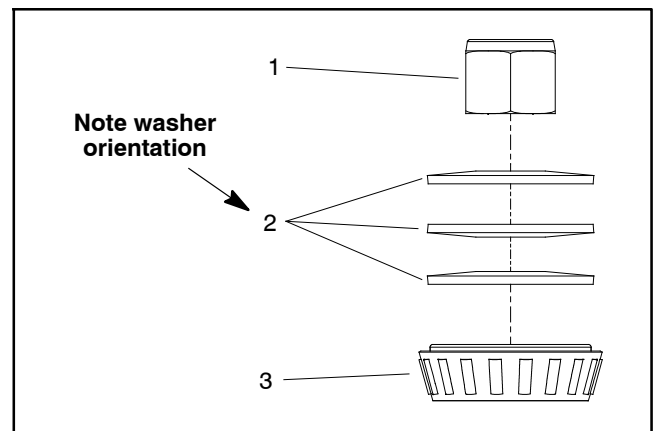

Figure 5
3. Carefully remove grease cap (item 6) from top of frame castor hub. Discard grease cap.
5. Remove three (3) belleville washers and upper bearing cone from frame. Note orientation of washers as they are removed (Fig. 5). Belleville washer orientation is critical for proper castor fork movement.
6. Pry seal (item 10) from frame and discard seal. Remove lower bearing cone from frame.
3. Position greased lower bearing cone into frame and then install new seal (item 10) into bottom of frame hub.
4. Carefully raise castor fork up through frame taking care to not damage seal in bottom of frame hub. Place upper bearing cone and three (3) belleville washers onto castor fork shaft. Make sure that belleville washers are properly orientated (Fig. 5).